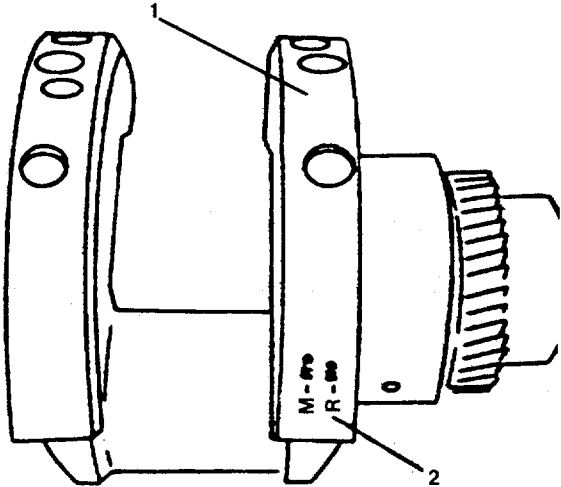
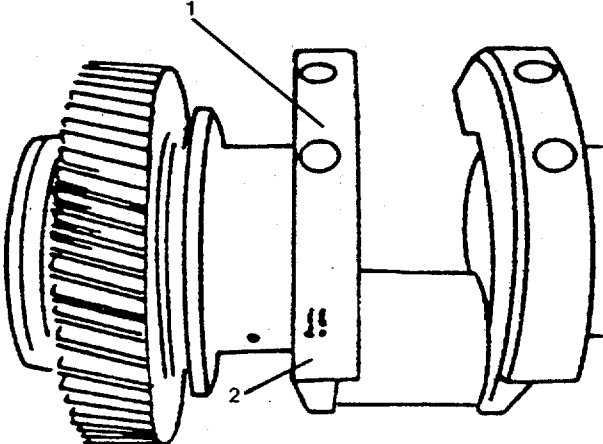

FIGURE 4-54. Markings on the Crankshaft for Undersize Main and Connecting Rod Journals.
FIGURE 4-55. Marking on the Crankshaft for Oversize Thrust Bearing.
- Reground crankshafts or those used with undersize rod and main bearings and/or oversized thrust rings should be marked so the correct bearing shells and thrust rings can be installed in proper position. Markings (2, FIG. 4-54) for rod and main bearings are on the front counterweight (1). Thrust ring size (2, FIG. 4-55), and location are on the rear counterweight.
- (1) Install the key in the shaft.
- (2) Heat the gear in a preheated oven at 400°F (205°C) for a minimum of one hour.
- (3) Lubricate the flange with high pressure grease. Install the gear onto the shaft.
Before installation, check the bearing sizes (FIG. 4-54 and 4-55). Main bearings are two widths; the narrow bearings fit locations 1 and 9. The upper bearings contain an oil hole, the lower bearings do not. Both are marked on the back to indicate location.